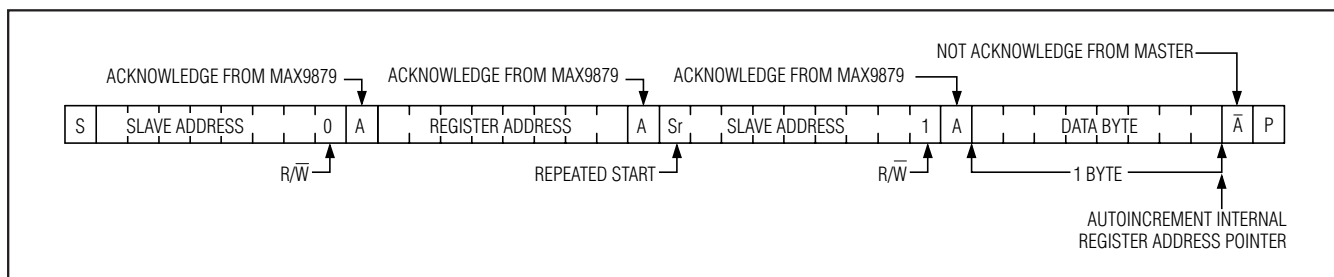
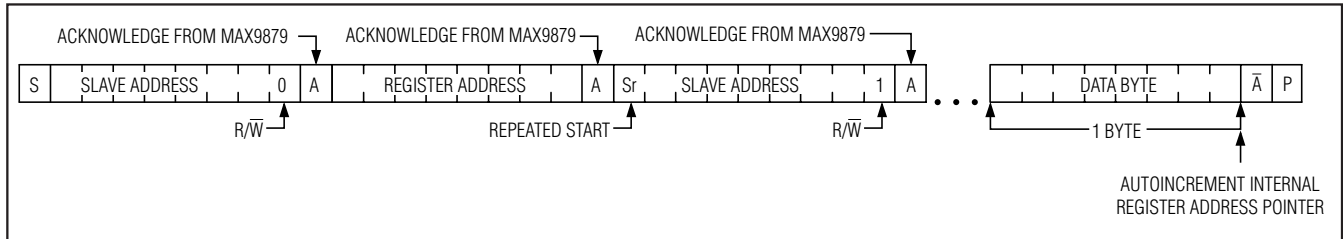

Figure 11. Reading One Indexed Byte of Data from the MAX9879
Figure 12. Reading *n* Bytes of Indexed Data from the MAX9879
The address pointer can be preset to a specific register before a read command is issued. The master presets the address pointer by first sending the MAX9879's slave address with the $R/\bar{W}$ bit set to 0 followed by the register address. A REPEATED START (Sr) condition is then sent followed by the slave address with the $R/\bar{W}$ bit set to 1. The MAX9879 then transmits the contents of the specified register. The address pointer autoincrements after transmitting the first byte. The master acknowledges receipt of each read byte during the acknowledge clock pulse. The master must acknowledge all correctly received bytes except the last byte. The final byte must be followed by a not acknowledge from the master and then a STOP (P) condition. Figure 11 illustrates the frame format for reading one byte from the MAX9879. Figure 12 illustrates the frame format for reading multiple bytes from the MAX9879.